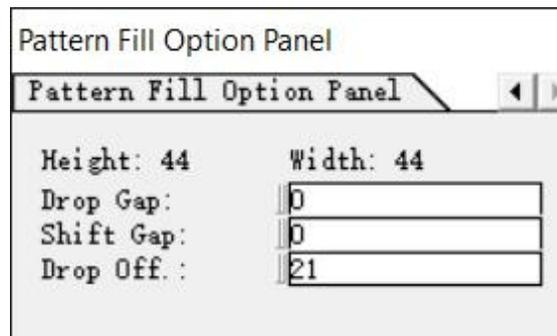

Figure 4-120
3. Select Pattern Half-Drop Fill, the Pattern Fill Option Panel displays the height and width of the fill pattern, and you can achieve the desired effect by setting "Drop Gap", "Shift Gan" and "Drop Off". (Figure 4-120)